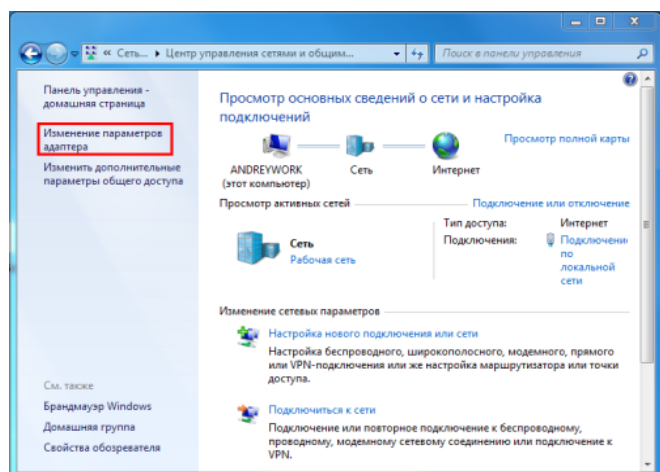

Figure 3.2 – Viewing network data and connections settings window
- 2) In the appeared window (view figure 3.2) choose **Adapter parameters change**.